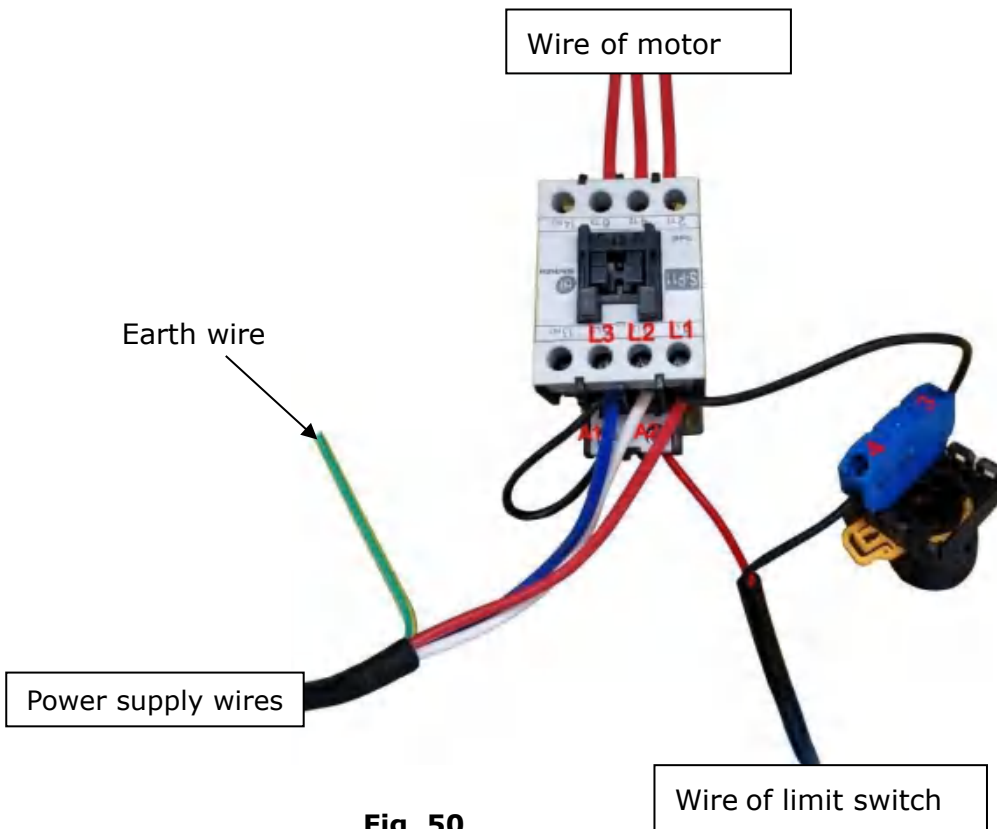

Fig. 50
2. Connection step (See Fig.50)